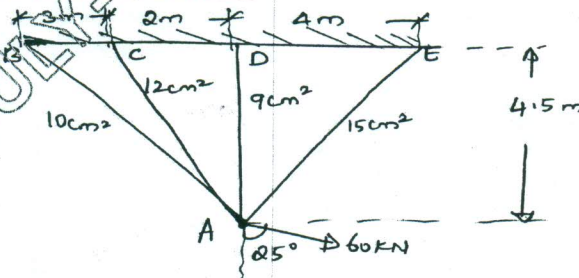

Fig.Q.6
- 6 Find forces in all members for the given pin jointed frame shown in Fig.Q.6 and also displacement of joint A. Take $E = 200 \text{ GPa}$. (16 Marks)